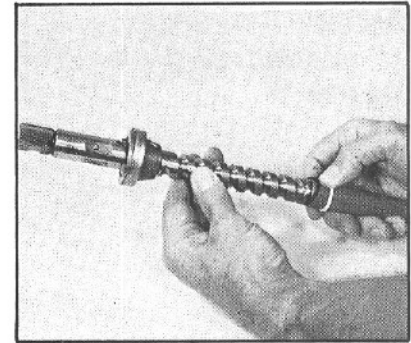
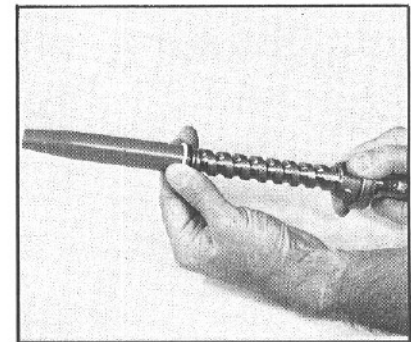
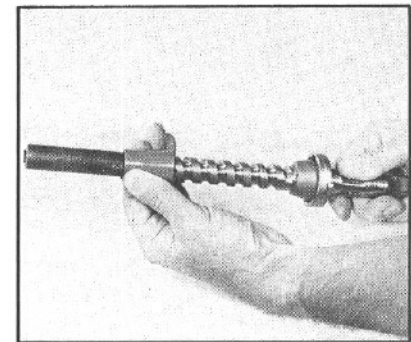

Figure 90
Figure 91
Figure 92
1. Using seal installation tool J26650-01, assemble the new worm shaft backup O-ring (18) (FIG. 90), and then the new teflon worm shaft seal ring (19) (FIG. 91). Next, compress the seal ring with compression tool J26649, and set the worm shaft/input shaft (17) aside for 10 minutes (FIG. 92).